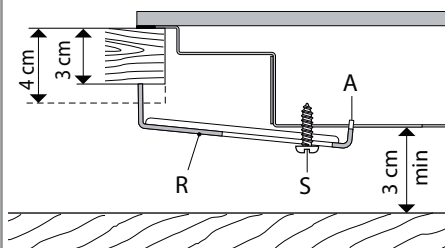

Fig. 13a
Each cooktop is provided with an installation kit including brackets and screws for fastening the cooktop to benches from 30 to 40mm thick. The kit includes two "F" type brackets (for the front of the cooktop), two "R" type brackets (for the rear of the cooktop) and four self-threading screws "S" (figs. 13a and 13b).
- Put the brackets "F" and "R" into place; tooth "A" of the brackets should go into the hole (Figs. 13a and 13b).